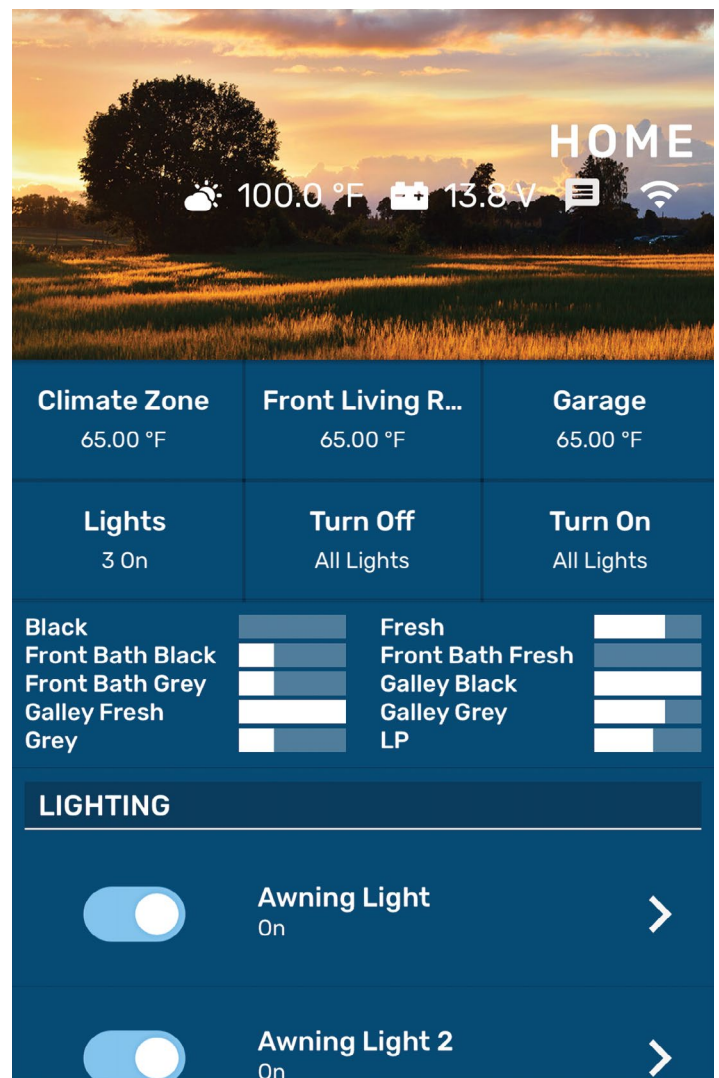

Fig.67
W. Setup a PIN task is complete. The OneControl app setup process has been completed. Tap the Continue to App >> button (Fig.66A) to be launch the app's **HOME** screen (Fig.67).